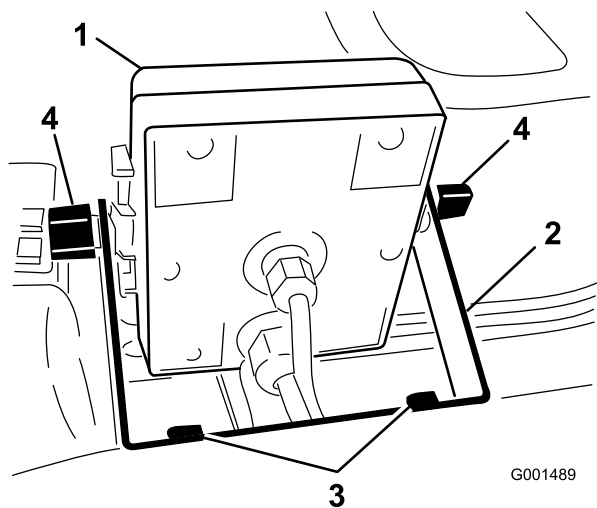

Figure 5
2. Install the monitor bracket on the dash (Figure 5) using 2 flange-head bolts (1/4 x 3/4 inch) and 2 flange nuts (1/4 inch).
6. Install the Spray Pro monitor over the carriage bolt heads (Figure 5) and tighten the knobs to secure it.